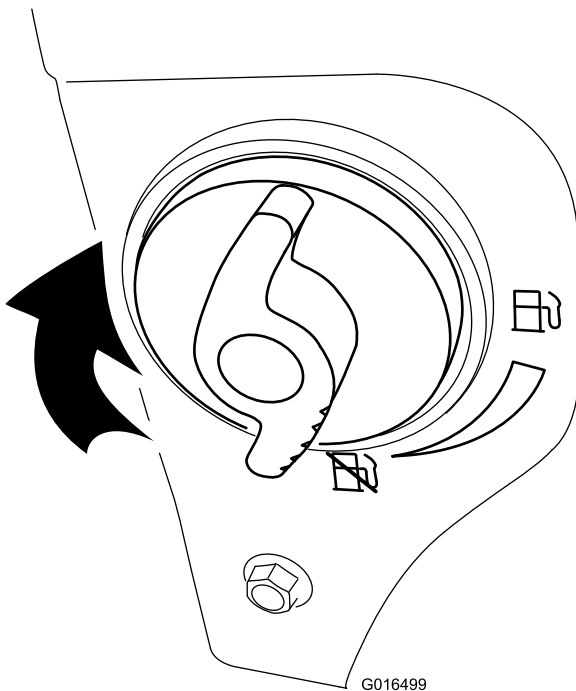

Figure 31
4. Close the fuel-shutoff valve by rotating it clockwise (Figure 31).